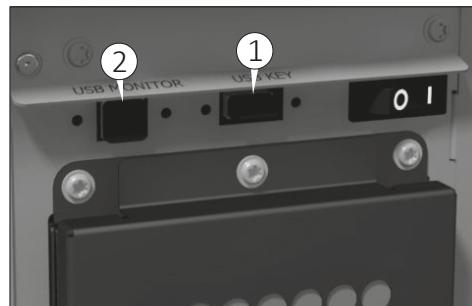

Fig. 25
- 1) USB type A (1 Fig. 25) for pen-drive: see chapter "USB Key Management".
- 2) USB type B (2 Fig. 25) is used to connect an external PC.